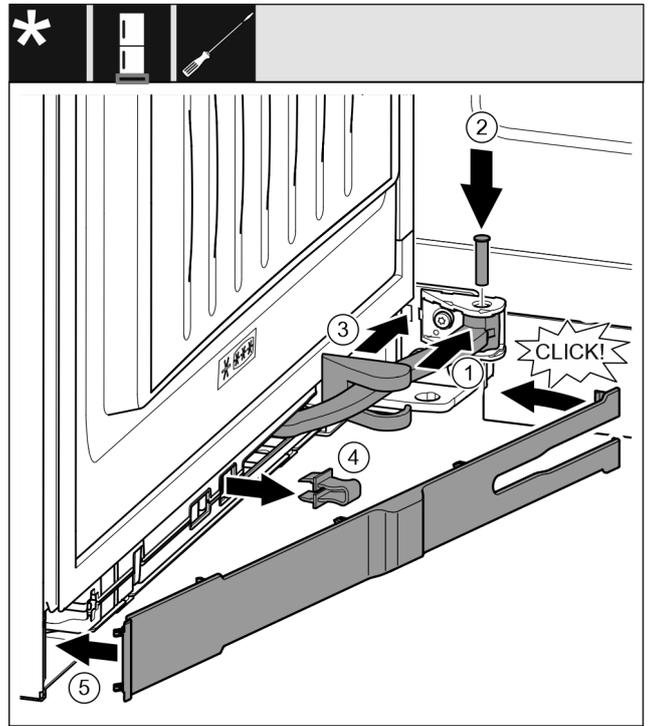

Fig. 38
- ▶ Turn the joint in the attachment. Fig. 38 (1)
- ▶ Use a T15 screwdriver to insert the bolt into the attachment and the joint. Ensure that the latching cam is in the groove properly. Fig. 38 (2)
- ▶ Push the swap bearing block cover along the joint and use the attachment to fit it. Fig. 38 (3)
- ▶ Remove the safeguard. Fig. 38 (4)
- ▶ Place the trim on the handle side and swing in. Fig. 38 (5)